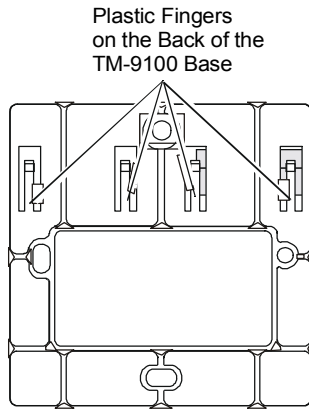

Figure 10: Removing the Terminal Block(s) from TM-9100 Surface-Mount Base
5. Remove terminal block(s) from the TM-9100 base by lifting the plastic fingers on the back of the base and sliding the terminal block down and out of the retainer. (See Figure 10.) Discard this base.